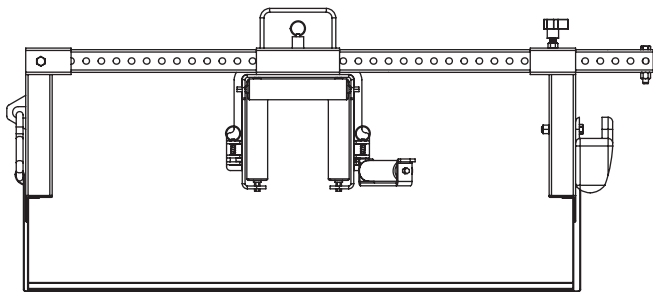

Figure 3
- To remove cable from the square rollers, pull one of the two spring-loaded release pins and pivot the lower roller open, as shown in Figure 3. Be sure to support the weight of the cable when pivoting the roller, as improper use may bend the frame of the unattached roller.